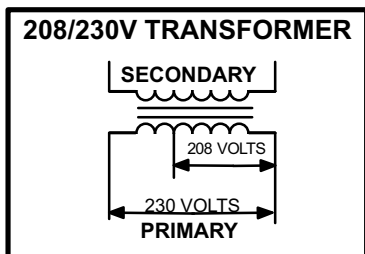

FIGURE 3
(Y) voltage transformers have two primary voltage taps, but only one may be used depending on supply voltage. See figure 3. 460 (G) and 575 (J) voltage transformers use a single primary voltage tap.